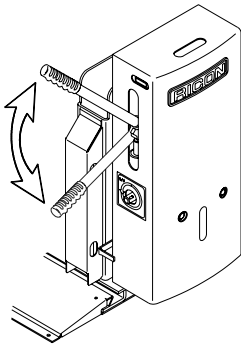

FIGURE 2-17: RAISE PLATFORM
- b. Refer to **Figure 2-17**. Insert pump handle into pump handle socket. Operate pump to raise platform to floor level.